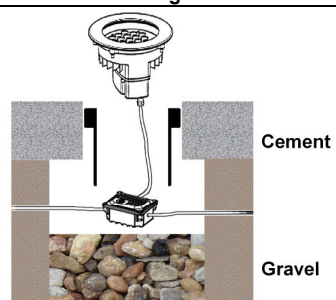

Fig.5
7. Connect the cables of luminaire to waterproof wiring box. (Fig.5)